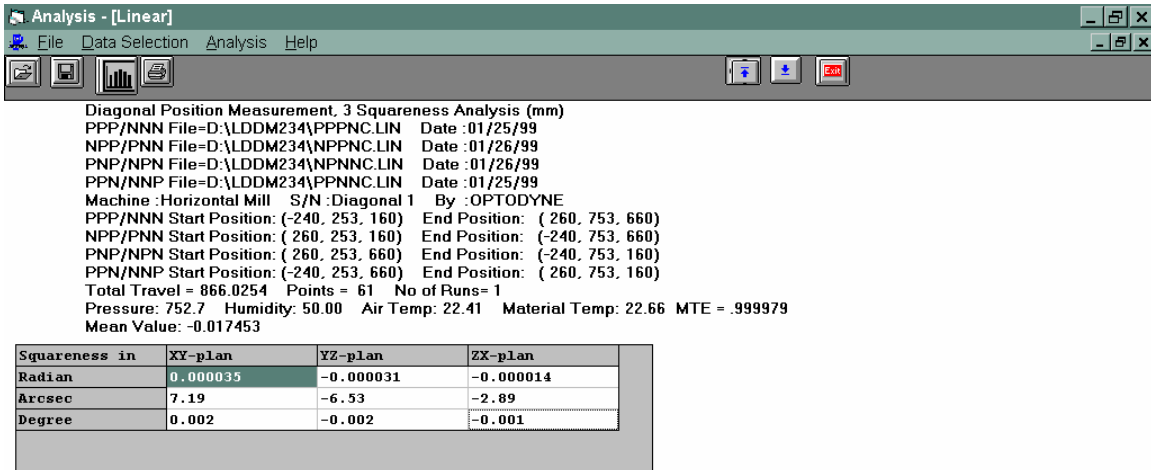

FIG. 9-8 MEASURED SQUARNESS ERRORS
- 5) Click on **Analysis** then **3 Squareness**, the screen will show the 3 squareness errors in the XY-plan, YZ-plan and ZX-plan as shown in FIG. 9-8.